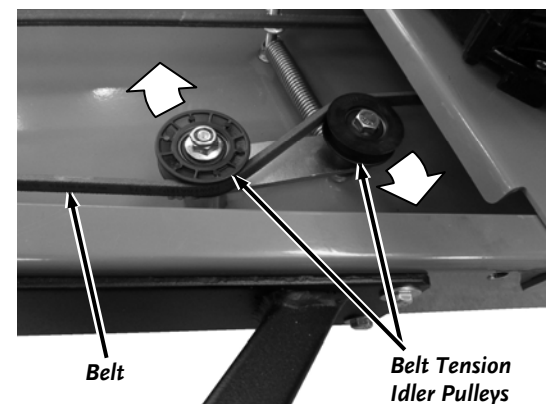

Figure 29
3. Rotate the Belt Tension Idler Pulleys away from the Belt and slide the Belt off the Idler Pulleys (**Figure 29**).